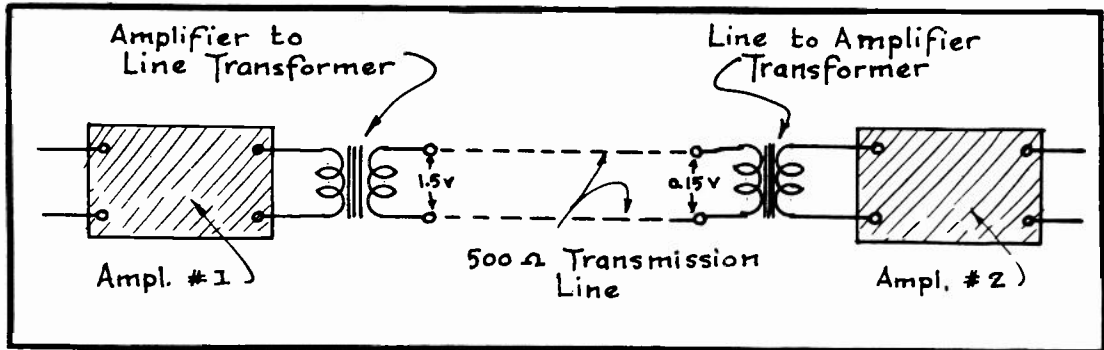
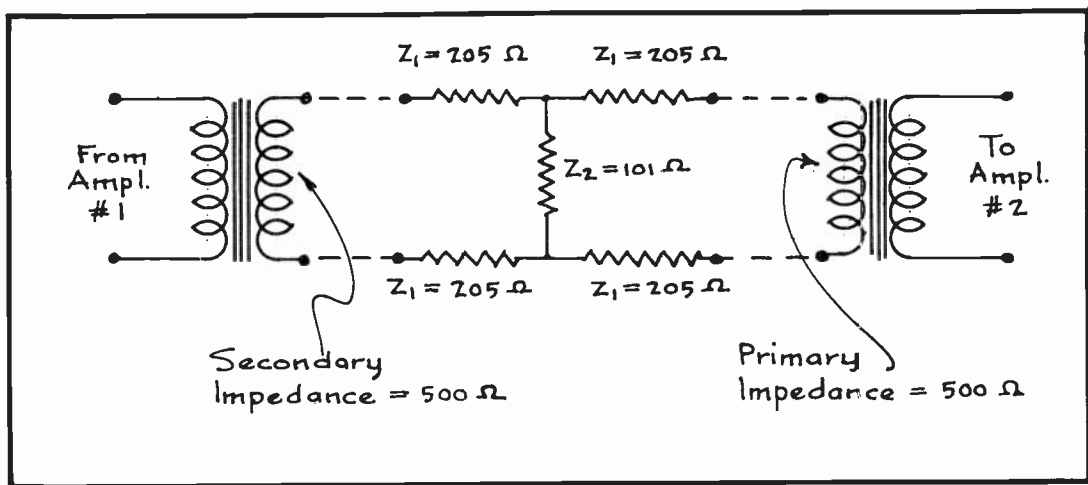

FIG. 2
FIG. 6
IN FIG. 2, THE SIGNAL ENERGY AS SUPPLIED AT THE OUTPUT OF AMPLIFIER #1 IS DELIVERED BY THE TRANSMISSION LINE TO AMPLIFIER #2 FOR FURTHER AMPLIFICATION. YOU WILL ALSO OBSERVE THAT IN ORDER TO BRING ABOUT PROPER MATCHING OF IMPEDANCES BETWEEN THESE TWO AMPLIFIERS ONE TRANSFORMER IS USED TO MATCH THE OUTPUT IMPEDANCE OF AMPLIFIER #1 TO THE TRANSMISSION LINE AND A SECOND TRANSFORMER IS USED TO MATCH THE TRANSMISSION LINE INTO THE INPUT IMPEDANCE OF AMPLIFIER #2.
1.5 VOLTS R.M.S. WE SHALL FURTHER ASSUME THAT THE OPERATING CHARACTERISTICS OF AMPLIFIER #2 ARE SUCH THAT IN ORDER NOT TO OVERLOAD ITS INPUT CIRCUIT, A VOLTAGE OF ONLY 0.15 VOLTS R.M.S. IS PERMISSIBLE ACROSS THE PRIMARY WINDING OF THE LINE TO AMPLIFIER TRANSFORMER. IN OTHER WORDS, THE CONDITIONS IN THIS PARTICULAR CASE ARE SUCH THAT 1.5 VOLTS IS AVAILABLE ACROSS THE SECONDARY TERMINALS OF THE AMPLIFIER TO LINE TRANSFORMER WHEREAS ONLY 0.15 VOLTS CAN BE TOLERATED ACROSS THE PRIMARY TERMINALS OF THE LINE TO AMPLIFIER TRANSFORMER AS POINTED OUT TO YOU IN FIG. 2.
IN OTHER WORDS, A VOLTAGE REDUCTION IN ACCORDANCE WITH A RATIO OF 10 TO 1 IS REQUIRED BETWEEN THE INPUT AND OUTPUT TERMINALS OF THE NETWORK WHICH IS TO BE DESIGNED FOR THE TRANSMISSION CIRCUIT IN FIG. 2.
RETURNING TO OUR PROBLEM OF DESIGNING A PAD FOR THE SYSTEM ILLUSTRATED IN FIG. 2, WE HAVE ASCERTAINED THE VOLTAGE RATIO OR K TO BE 10 AND THE IMPEDANCE OF THE TRANSMISSION LINE IS ALREADY KNOWN TO BE 500 OHMS. (THE LOAD AND SOURCE IMPEDANCE IN THIS CASE WOULD ALSO EACH BE 500 OHMS). THEREFORE, BY SUBSTITUTING THESE KNOWN VALUES IN THE FORMULA $Z_1 = \frac{Z_o}{2} \left(\frac{K-1}{K+1} \right)$ WE HAVE:
THE PAD FOR THE SYSTEM OF FIG. 2 WILL NOW APPEAR AS SHOWN YOU IN FIG. 6 AND WHERE ALL VALUES ARE SPECIFIED.